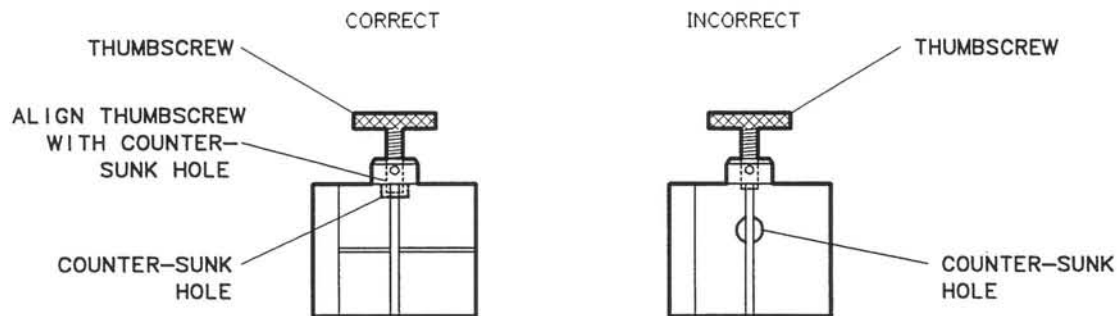

Figure 3-7. Aligning the Thumbscrew With the Counter-Sunk Hole
6. See Figure 3-7. Ensure that the thumb-screw is aligned with the counter-sunk hole on the clamp body.